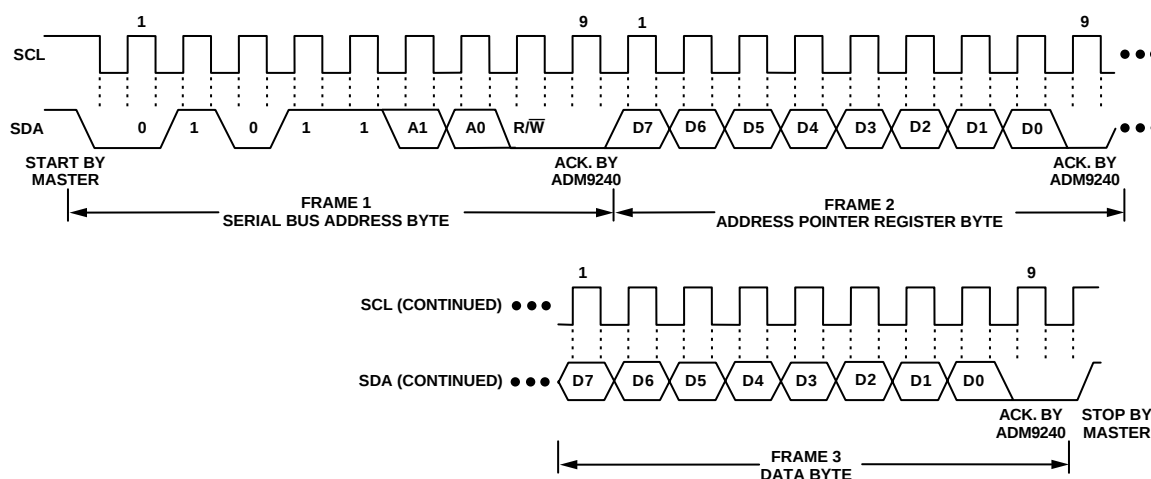

Figure 2a. Writing a Register Address to the Address Pointer Register, then Writing Data to the Selected Register
This is illustrated in Figure 2a. The device address is sent over the bus followed by R/ $\overline{W}$ set to 0. This is followed by two data bytes. The first data byte is the address of the internal data register to be written to, which is stored in the Address Pointer Register. The second data byte is the data to be written to the internal data register.
2. In Figures 2a to 2c, the serial bus address is shown as the default value 01011(A1)(A0), where A1 and A0 are hardwired to either Logic 0 or Logic 1.